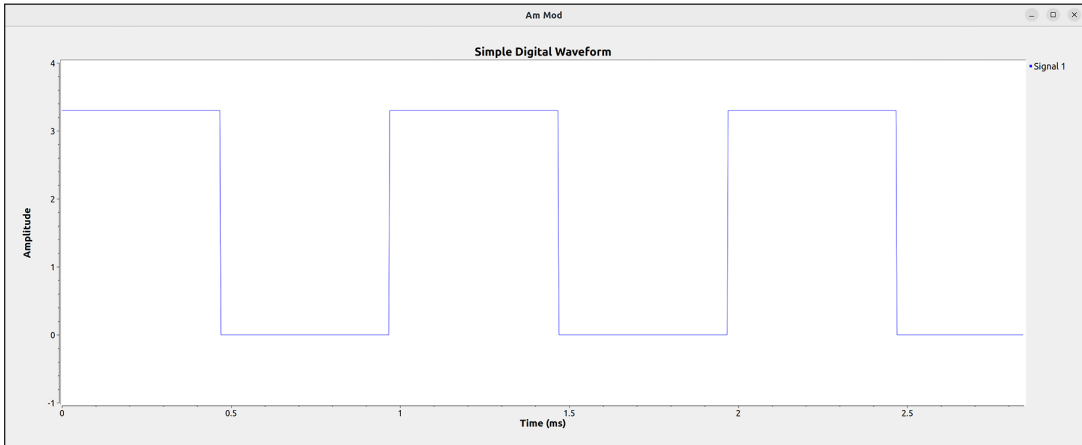

Figure 10-22: A simple digital waveform
Think about how digital signals are generated and interpreted in the world of wired electronics. In a 3.3-volt (V) system, for example, a digital zero might be represented by 0 V and a one by 3.3 V, as shown in Figure 10-22.